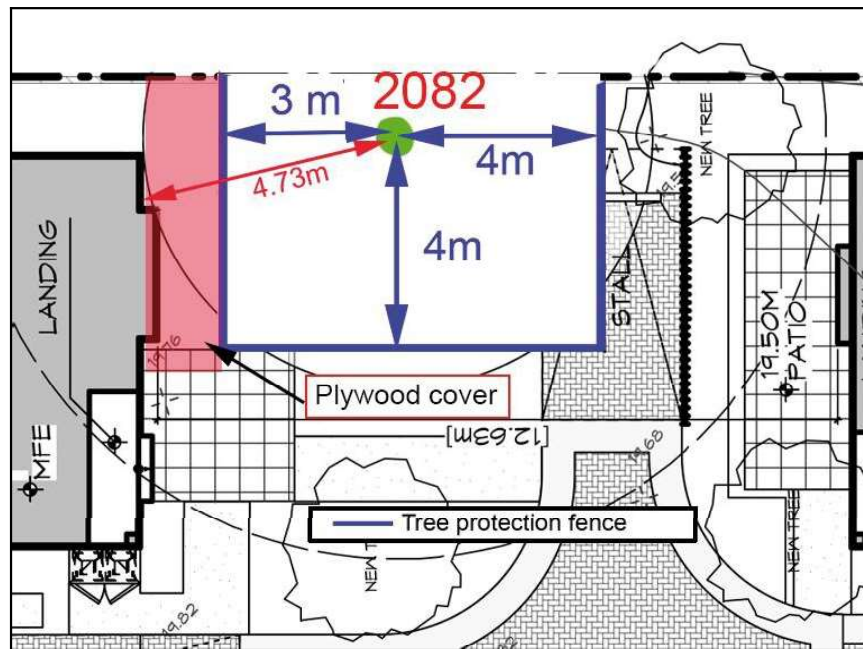
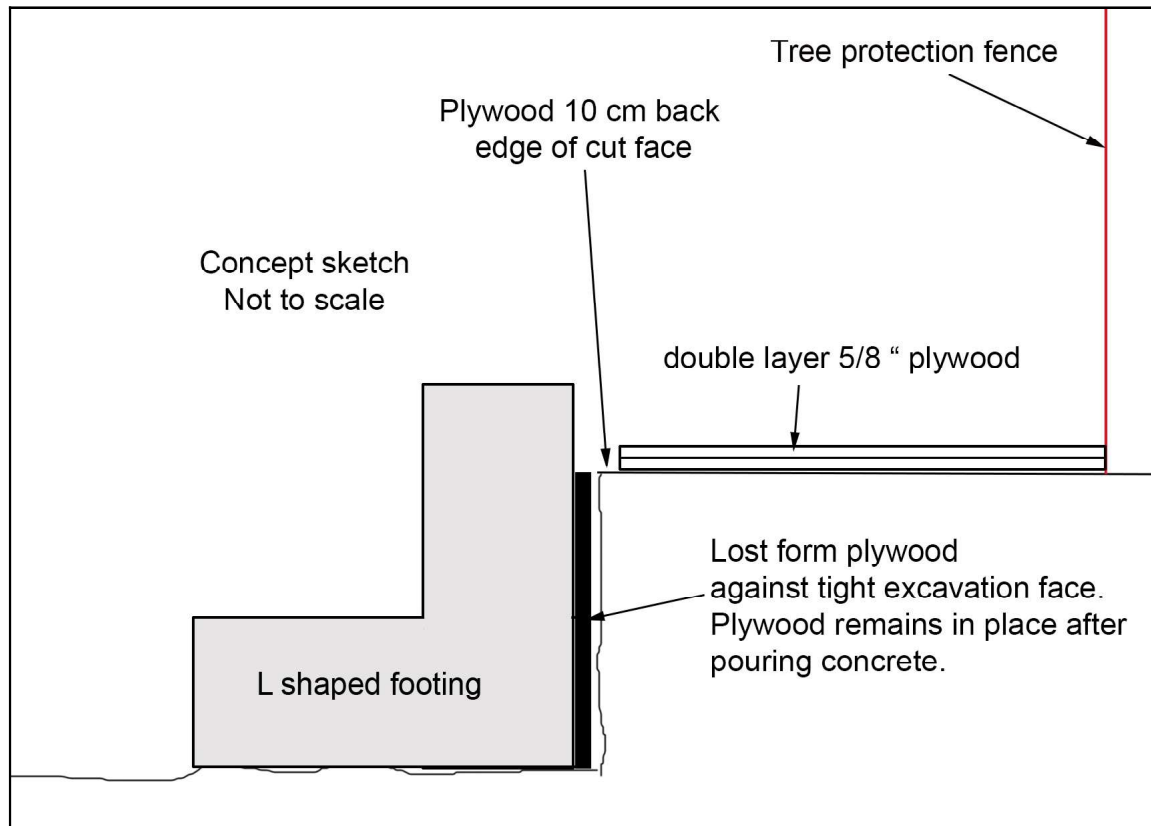

Figure 4. Fence detail by Oak tree.
Figure 5. Concept sketch showing detail of foundation and ground plywood cover.
- 1 Prior to any other site preparation, the oak tree shall be fenced off at as shown in detail in Figure 4.
Once the protection fence is in place around the oak tree, the east edge of the building footprint shall be laid out on site. Prior to excavation of any other disturbance in the area just beyond the west side of the tree fence, there shall be a double layer of 5/8 plywood installed between the fence and the edge of the excavation. The west edge of that plywood layer can be no more than 10 centimetres back from the edge of the wall. The footing design in this area shall be an L shape not a T shape, and the footing shall be formed as a blind form along the west edge, with the intention to leave the plywood form in place after the concrete has been poured. That means that the excavation shall be limited to the edge of the wall plus 10 centimetres and no more. See Figure 5. This treatment shall extend along the east edge for a distance of 4 metres as shown in Figure 4 (red area).